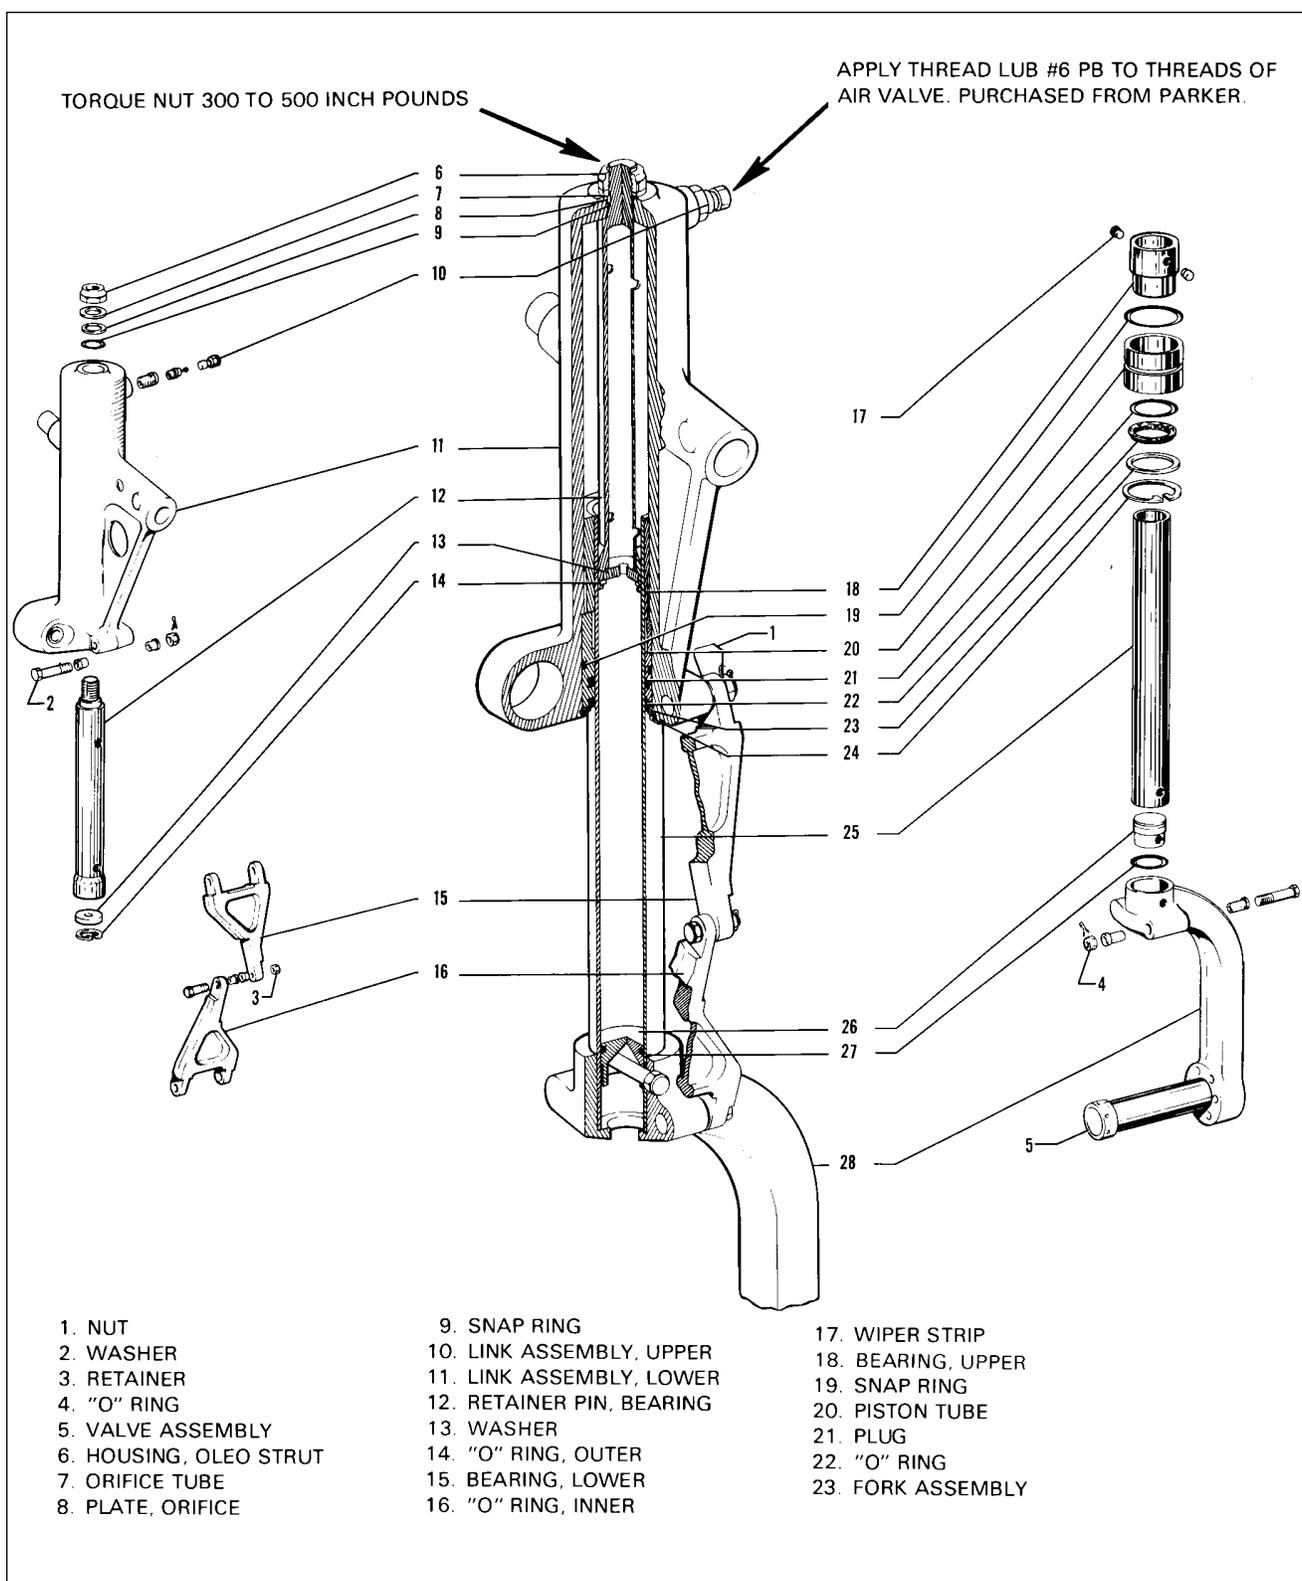

Figure 32-1. Main Gear Oleo Strut Assembly
**DISASSEMBLY OF MAIN GEAR OLEO.** (Refer to Figure 32-1.)
**ASSEMBLY OF MAIN GEAR OLEO.** (Refer to Figure 32-1.)